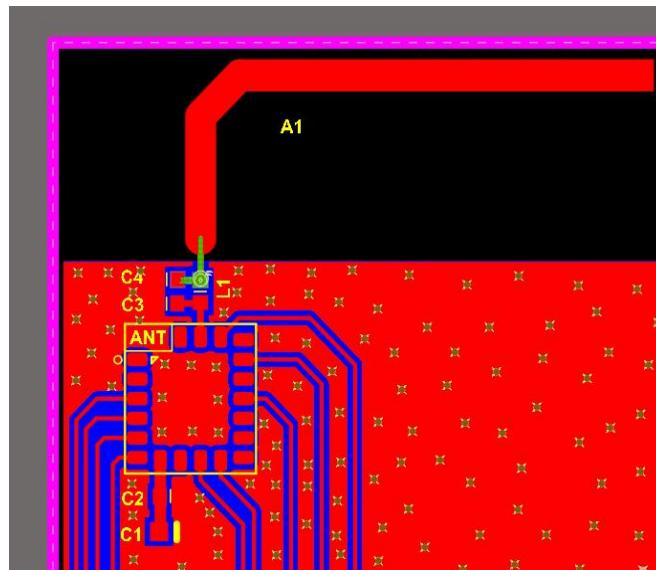

Figure 2-11 External PCB antenna circuit design
**2. Using external high-performance antennas.** The pin of PIN20 is suspended, and the pin of PIN19 is connected to the PCB antenna through a  $\pi$ -shaped filter circuit, as shown in Figure 2-11 below. The communication distance in the open field can reach 40 to 80 meters.